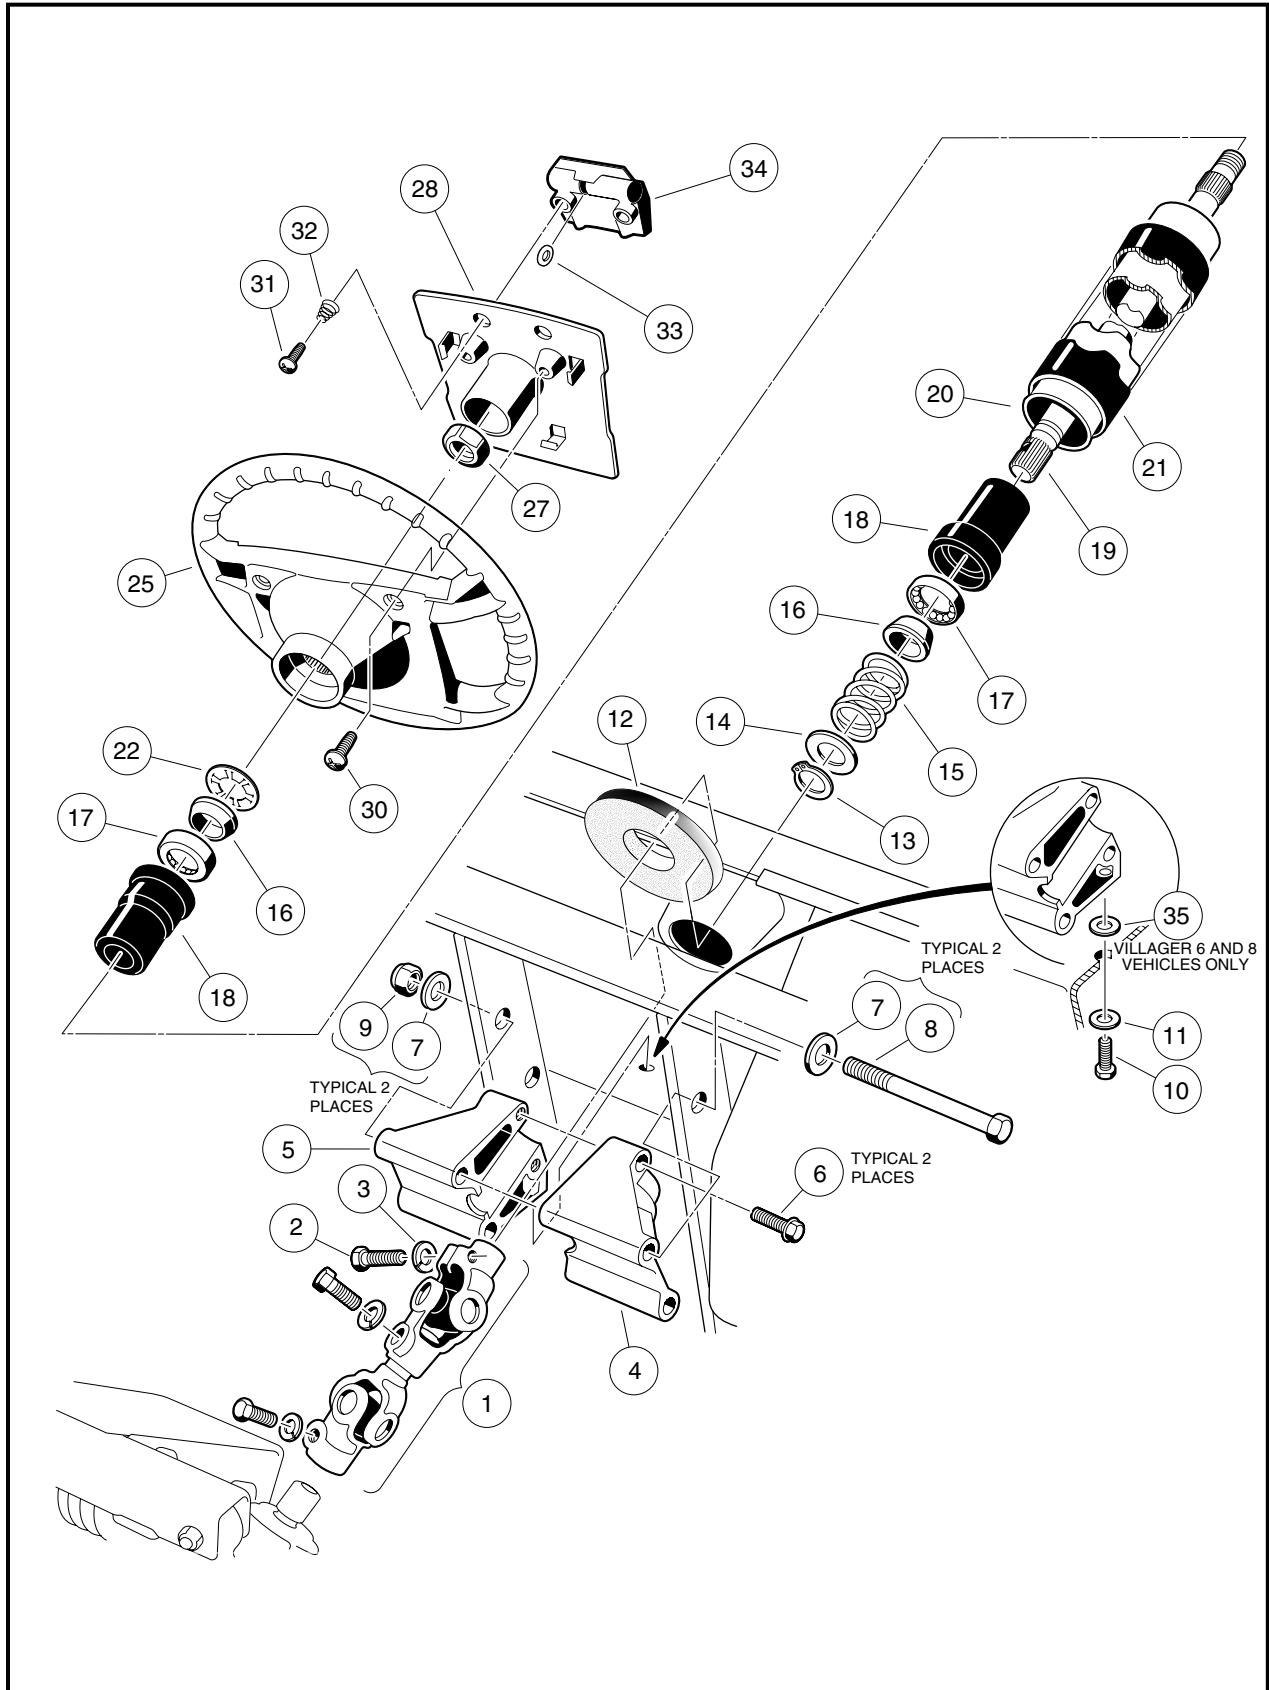

Figure 7-3 Steering Column
2. Remove the two mounting screws (30) and plate (28) **(Figure 7-3, Page 7-3).**
3. Match mark the steering wheel (25) and steering column shaft (19) so when the steering wheel is removed it can be placed back in exactly the same position on steering column shaft **(Figure 7-3, Page 7-3).**
4. Loosen the steering wheel nut (27) and back it off approximately 1/4 inch (6 mm). Do not remove the nut **(Figure 7-3, Page 7-3).**
- 5.6. Remove the steering wheel nut (27) and the steering wheel (25) from the steering column (20) (**Figure 7-3, Page 7-3**).
1. Install the steering wheel (25) on the splines of the steering shaft (19). Be sure to align the match marks placed on the wheel and steering column in step 3 above (**Figure 7-3, Page 7-3**).
2. Install the steering wheel nut (27) and tighten to 13 ft-lb (17.6 N-m).
3. Install the steering wheel plate (28) and plate mounting screws (30) (**Figure 7-3, Page 7-3**). Tighten screws to 16 in-lb (1.8 N-m).
5. Remove the upper bolt (2) and lock washer (3) from the universal joint (**Figure 7-3, Page 7-3**).
6. Remove the nuts (9), bolts (8 and 10), and washers (7, 11, and 35) from the steering column mount (4 and 5) (**Figure 7-3, Page 7-3**).
1. Remove bolts (6) and mounts (4 and 5) from steering column. Remove boot (12) (**Figure 7-3, Page 7-3**).
2. While supporting steering column (20) on a workbench, remove snap ring (13) from shaft. **See following NOTE.**
4. Insert the shaft (19) from the bottom of the steering tube (20) (**Figure 7-3, Page 7-3**).
1. Install boot (12). Reinstall mount (4 and 5) onto the end of the steering column. Tighten bolts (6) to 20 ft-lb (27 N·m) (**Figure 7-3, Page 7-3**).
- Position the steering column assembly in the vehicle while inserting the steering column shaft into the upper universal joint (1). The flat portion of the steering shaft spline (19) must be aligned with the bolt hole in the universal joint (1) before sliding the spline into the universal joint. While holding the steering column in place, attach it to the frame using bolts (8), washers (7), and nuts (9) (**Figure 7-3, Page 7-3**). Thread the nuts onto the bolts but do not tighten them.
- Install washer (35) (Villager 6 and 8 vehicles only), washer (11), and screw (10). Tighten to 20 ft-lb (27 N·m) (**Figure 7-3, Page 7-3**).
- Install the bolt (2) and lock washer (3) on the upper universal joint and finger-tighten.
- Tighten the two nuts (9) and bolts (8) to 18 ft-lb (24.4 N·m) (**Figure 7-3, Page 7-3**).
- Tighten the bolt (2) on the upper universal joint to 15 ft-lb (20 N·m) (**Figure 7-3, Page 7-3**).
- Check the other two bolts of the universal joint (1) to ensure that they are properly tightened to 15 ft-lb (20 N·m) (**Figure 7-3, Page 7-3**).
5. Remove the bolt (2) and flat washer (3) on the upper universal joint, then remove the rack assembly and universal joint from the vehicle (**Figure 7-3, Page 7-3**).